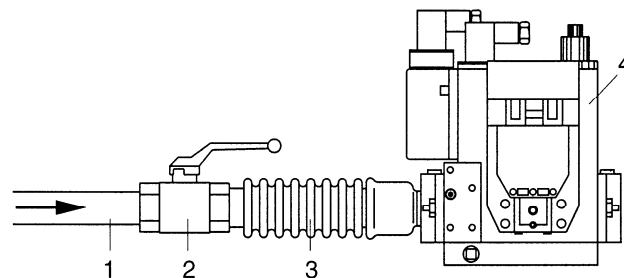

Fig. 3
- Connect a gauge to the upstream pressure intake (4) of the valve group (Fig. 3);